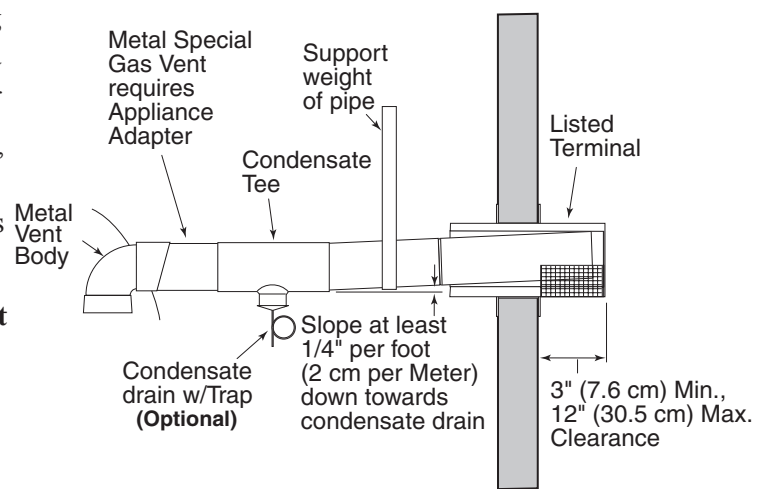

Figure 22.
- at least 3” and at most 12” out from the wall (see Figure 22), following the vent manufacturer’s instructions